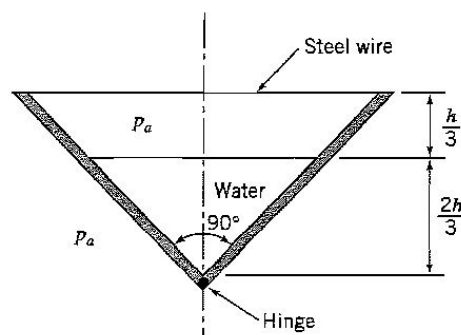

Figure P2.32
2.32 The symmetric trough shown in Figure P2.32 is used to hold water. Along the length of the trough, steel wires are attached to support the sides at distances w apart. Find the magnitude of the resultant force exerted by the water on each side, and the magnitude of the tension in the steel wire, neglecting the weight of the trough.